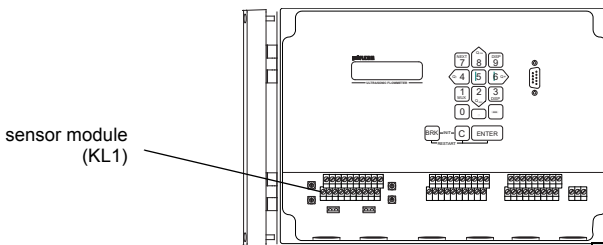

Fig. 5.18: Connection of the sensor module (SENSPROM)
- Insert the sensor module in the lower row of terminal strip KL1 (see Fig. 5.18). The slots SA1...SA4 are assigned to the transducers of measuring channel A, the slots SB1...SB4 are assigned to the transducers of measuring channel B.